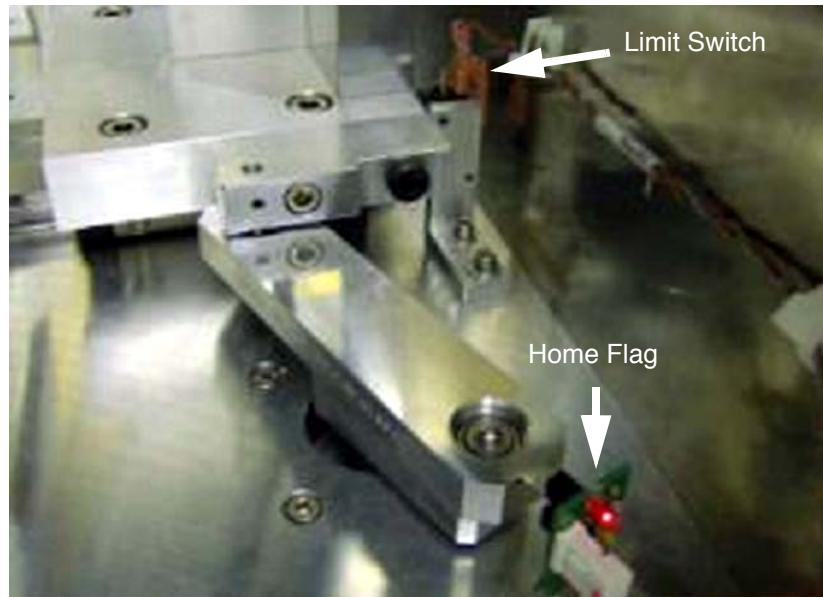

Figure 4-15
2. Continue to move the septa toward home. Home position is indicated by the LED on the optical switch (Home Flag) lighting up. (Figure 4-15)